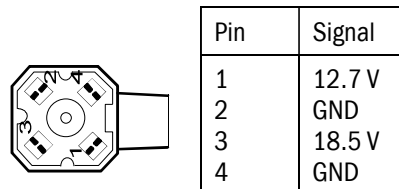
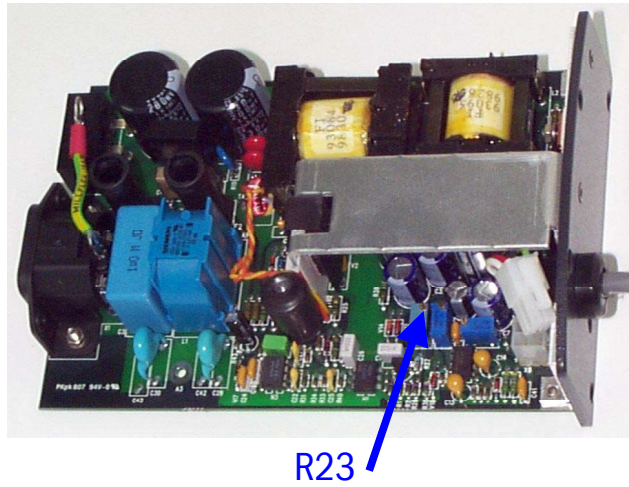

Figure 1 Power adapter's voltages
Figure 2 Adjustment trimmer R23 in N-LPOW
- Connect the power cord to the power adapter and check the supply voltage from the power adapter's connector. PIN 1 voltage must be 12.7 V without load (Figure 1). If necessary, adjust the 12.7 V with trimmer R23 (Figure 2).